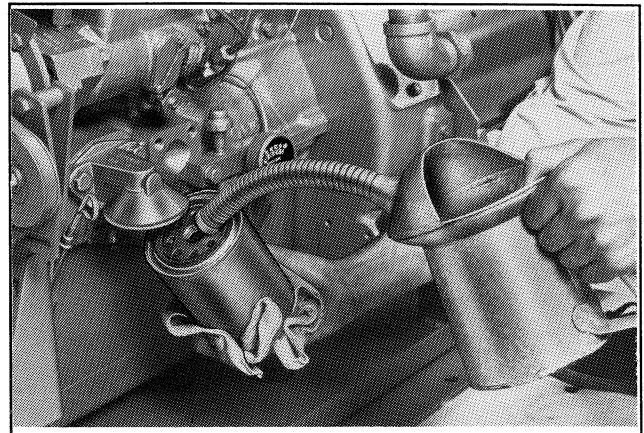

Figure 3-10. Priming Lube Oil Filter - Perkins
5. Prime new filter holding filter with threaded opening upward. Fill filter with fresh oil to bottom of threaded hole allowing oil to saturate element paper. Filter should hold about one (1) quart (.946 liters) of oil. See Figure 3-10.